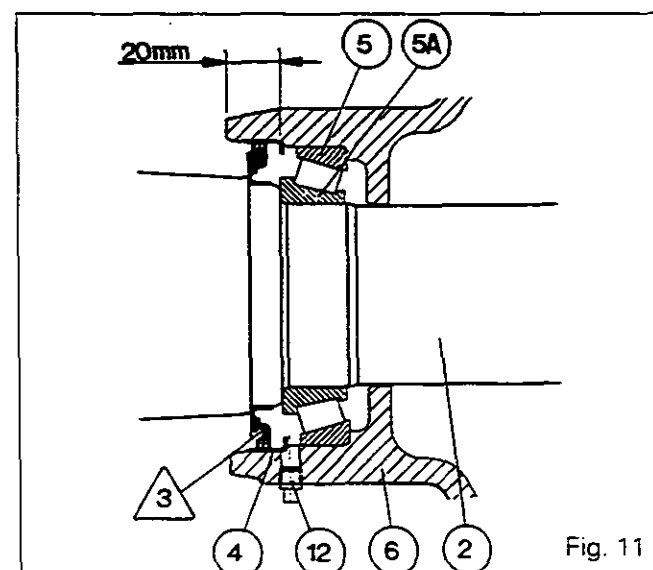

Fig. 11
12. Lubricate the cups (8) and (5) and press them fully on to the shoulder.
13. Press the housing (4) to within 20 mm of the trumpet housing (Fig.11).
Note: Ensure that the seal is fitted the correct way round (Fig.11).
21. Replace the plug (12) by a grease nipple. Partly fill the cavity at the end of the trumpet housing between the cone (5A) and the seal /3\ with BP Agricharge or an equivalent grease. Remove the grease nipple and refit the plug (Fig.11).